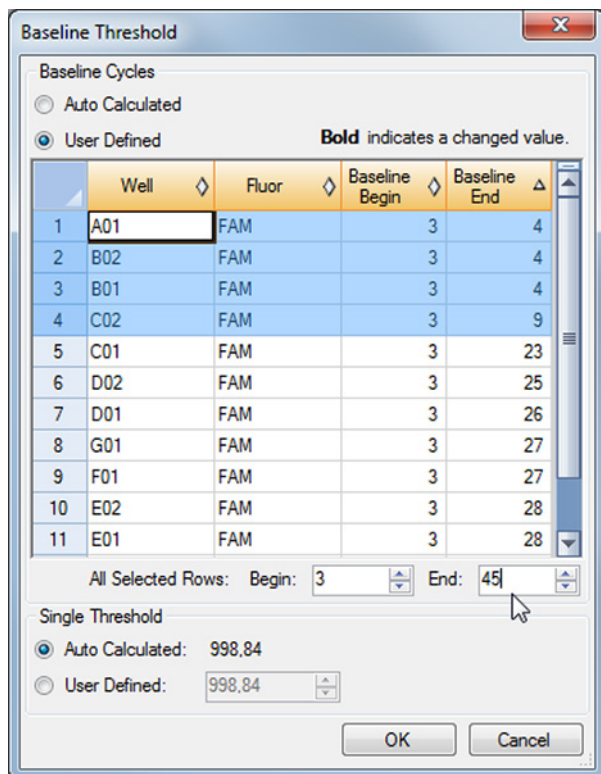

Figure 5: Baseline Threshold dialog
3. In the menu bar of the Data Analysis window click **Settings** → **Baseline Threshold...** to open the Baseline Threshold dialog (see figure 5).
5. Select all lines that show a **Baseline End** value of 1–9 (see figure 5).
6. Set the value in the **End:** field to 45 for the selected lines (see figure 5).
9. Repeat steps 3–7 for the VIC™ (IC) and Cy5 (HHV-6B target) detection channels.